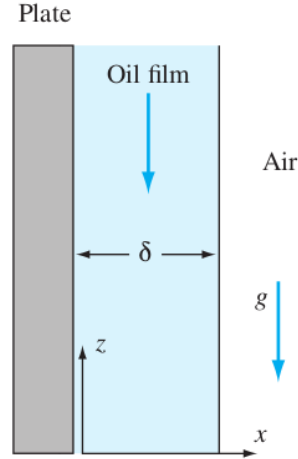

Fig. 4.12
4.12 Oil, of density ρ and viscosity μ , drains steadily down the side of a vertical plate, as in Fig. 4.12. After a development region near the top of the plate, the oil film will become independent of z and of constant thickness δ . Assume that $w = w(x)$ only and that the atmosphere offers no shear resistance to the surface of the film. a) Solve the Navier-Stokes equation for $w(x)$, and sketch its approximate shape. b) Suppose that film thickness δ and the slope of the velocity profile at the wall $[\partial w / \partial x]_{\text{wall}}$ are measured with a laser-Doppler anemometer (Chap. 6). Find an expression for oil viscosity μ as a function of $(\rho, \delta, g, [\partial w / \partial x]_{\text{wall}})$